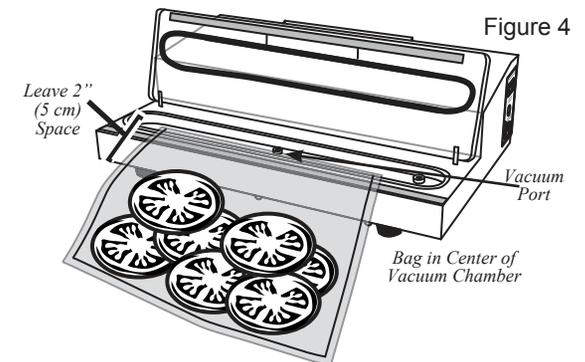

Figure 4
5. Fill a vacuum bag with the product you want to seal. Leave at least 2" (5 cm) of space between the open end of the bag and product *Figure 4*.